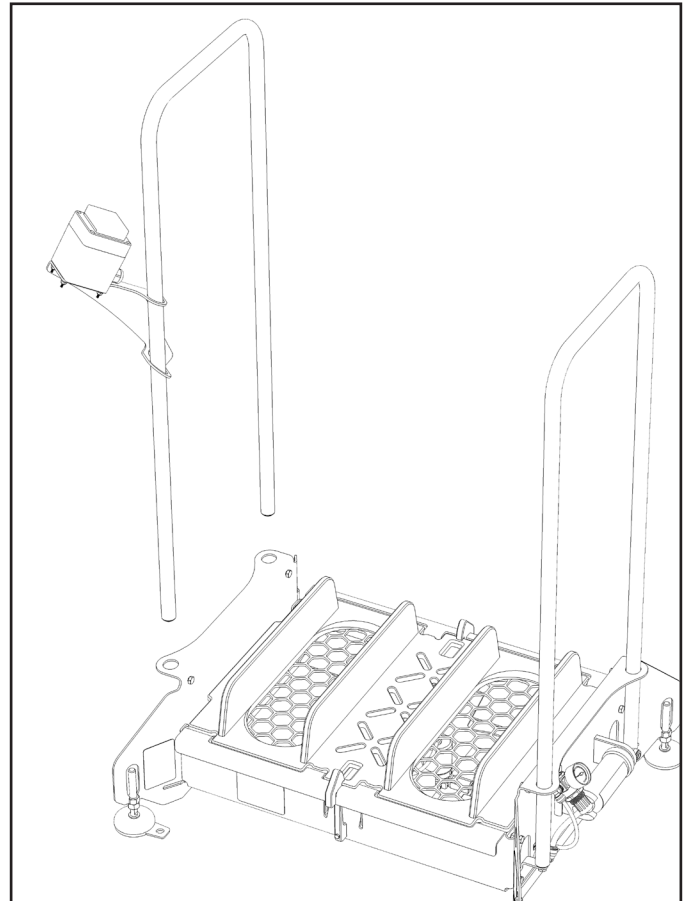

Fig. 5.1: Installing Compliance Counter bracket
2. Remove the handrail and install the compliance counter bracket as shown in [Fig. 5.1]
3. Using a 1/2" socket/wrench, secure the bracket in place using the (2) included nuts and bolts.